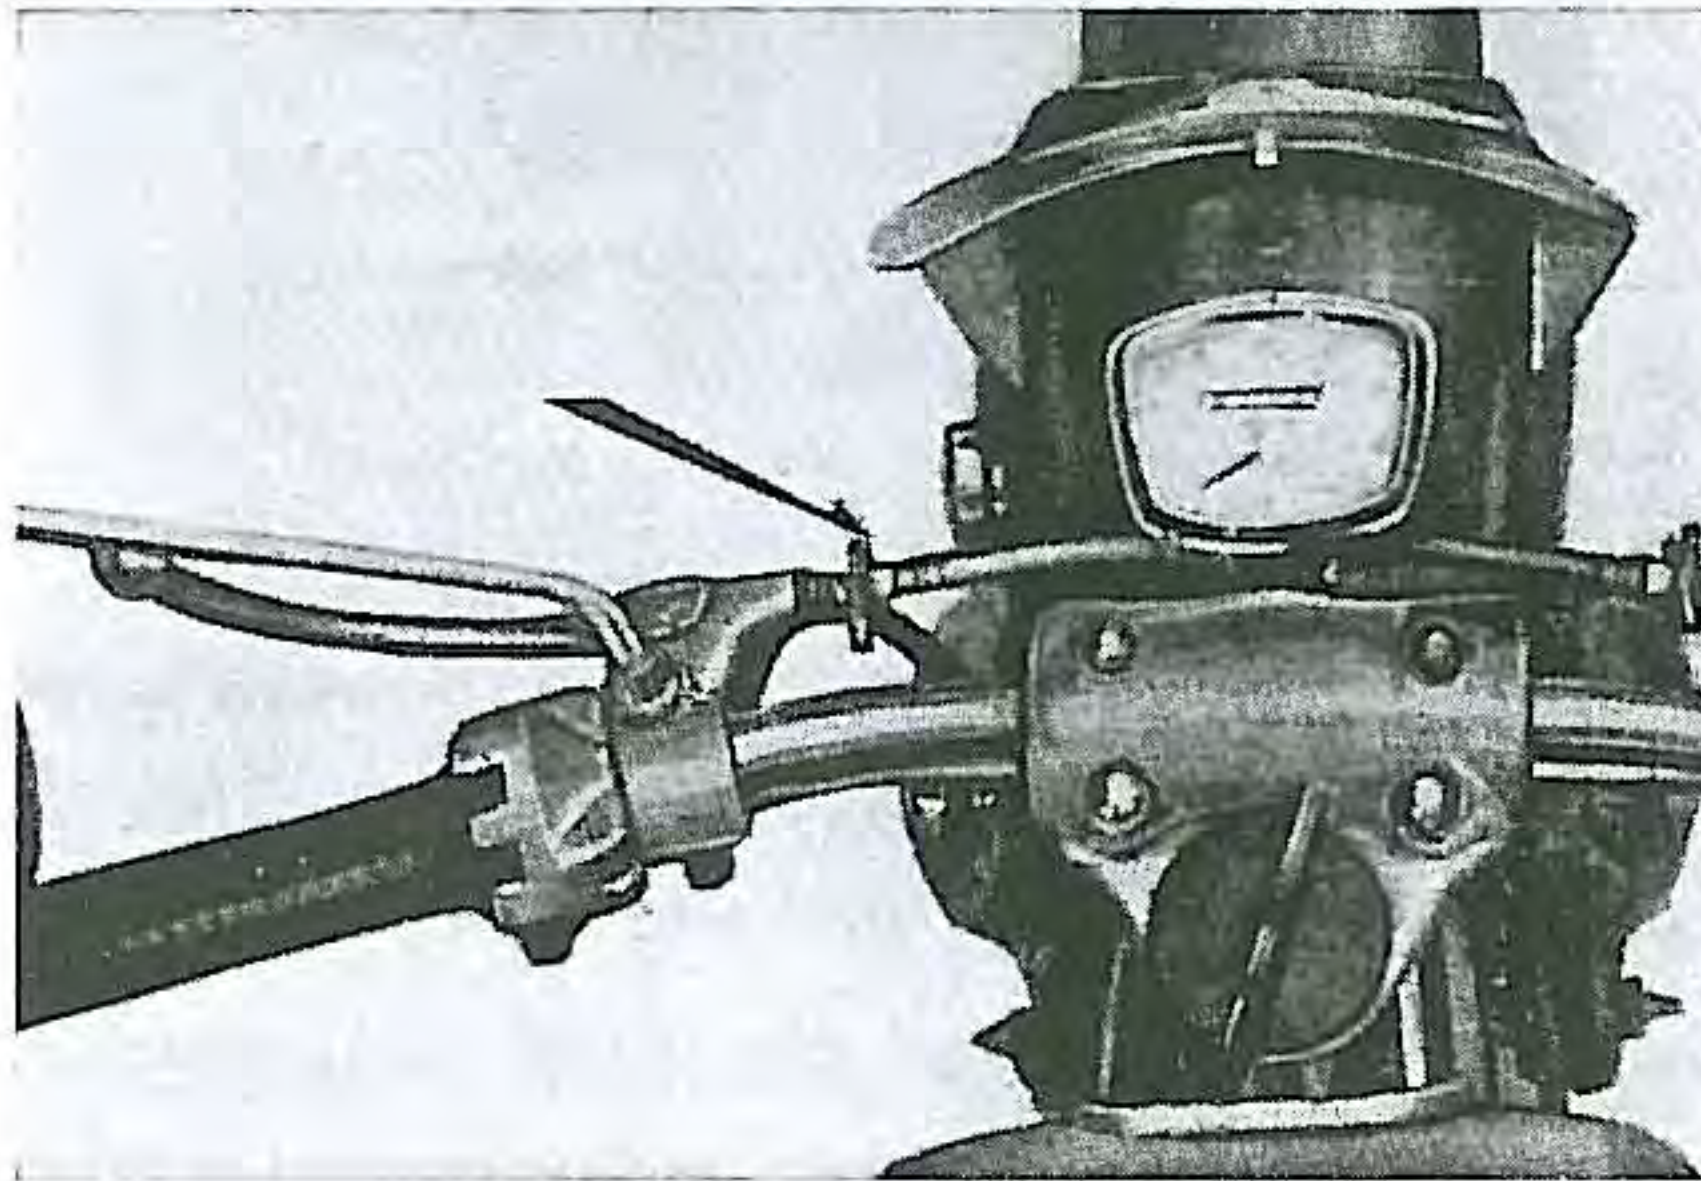

Fig. IV-6. Clutch cable (CB92)
- (4) The main adjustment can be made by steps 1 through 3, but to facilitate the adjustment of free play in the lever a cable adjuster is provided on the CB92 clutch cable. (Fig. IV-6)